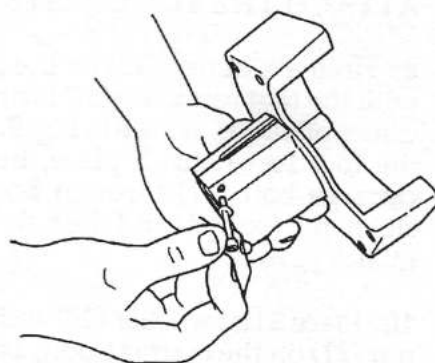

Fig. 2
2. Place a split lock washer (5) on the socket head cap screw (4). Thread the screw through the hole in neck of the guard (1), as shown in Fig. 2. Finger tighten. Set aside the guard.